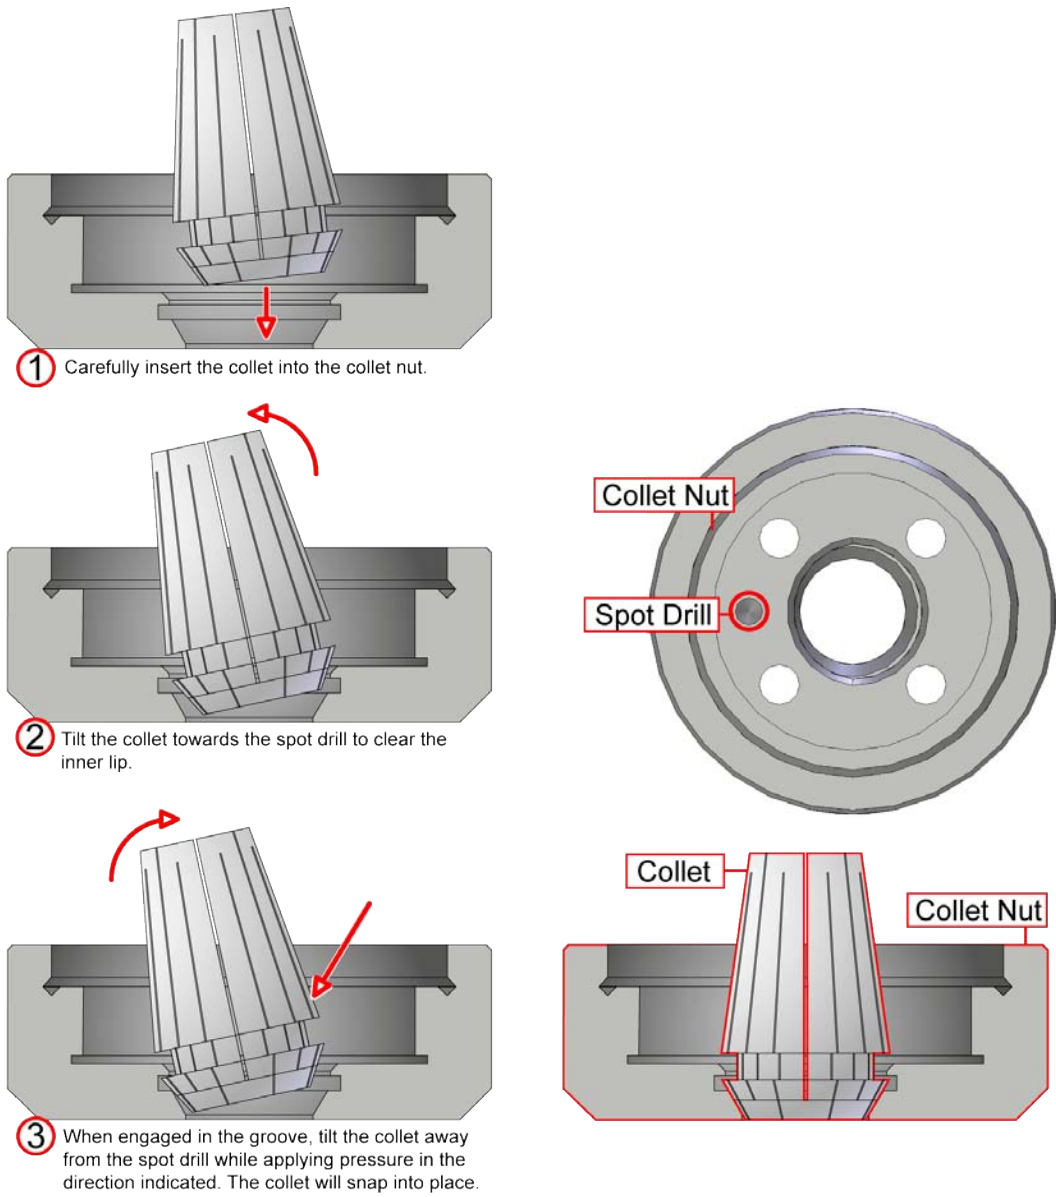

Figure 2-2: Installation of Collet Nut
- Step 5: Noting the orientation of the spot drill on the back side of the collet nut, refer to the instructions in Figure 2-2 to install the collet.